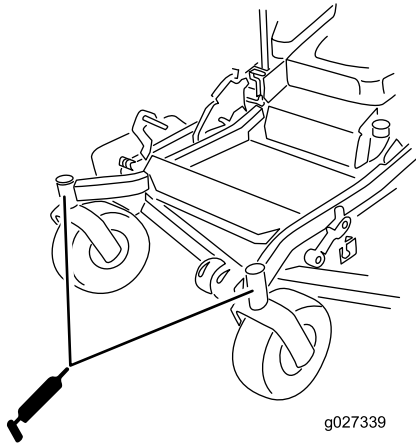

Figure 43
10. Install the hex plug and dust cap (Figure 43).
11. Grease the caster-wheel bearings (Figure 43).